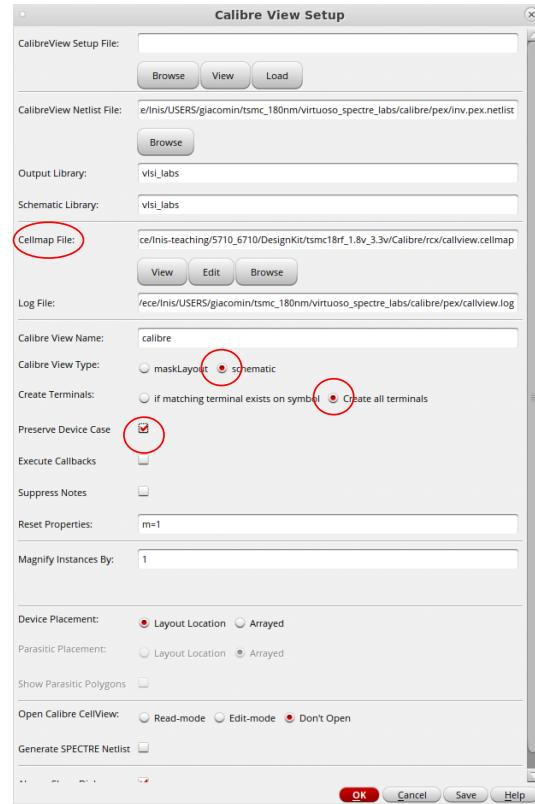

Figure 19: PEX options.
4. Then, a window will appear as depicted in Fig 19. Verify that the options (the important ones are highlighted in red) are the same as in Fig. 19 (some fields, such as the library settings can of course differ depending on the name you chose).